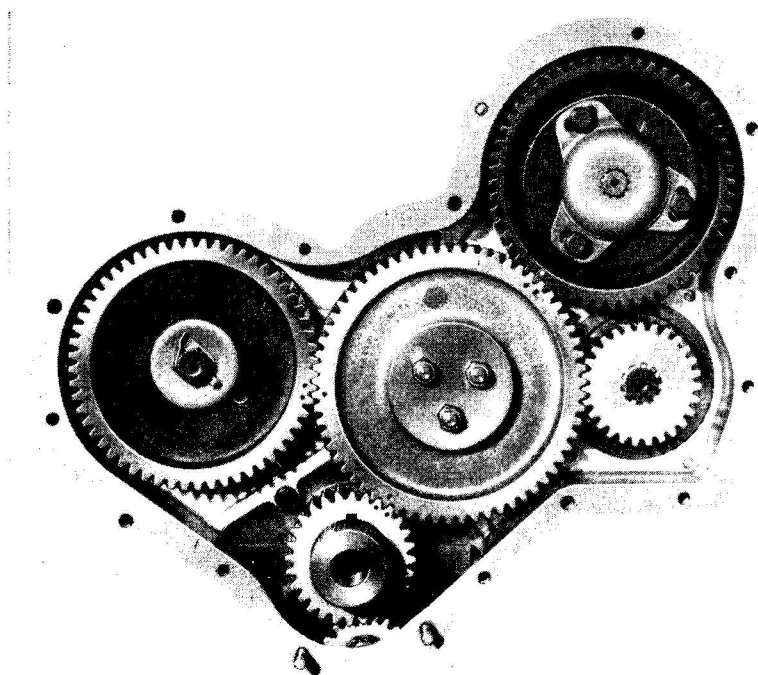

Fig. 5
4. Refit the idler gear to its hub with the timing marks on the crankshaft, camshaft, fuel pump and idler gears aligned (Fig. 5).
5. Refit the idler gear to its hub ensuring all timing marks are aligned (Fig. 5). Fit the idler gear retaining plate and secure to a torque of 33 Nm (24 lbf ft).
2. Remove idler gear and refit so that the timing marks are aligned (Fig. 5).
1. Fit the fuel pump gear to its carrier ensuring that the tooth with the punch mark coincides with double punch marks on the idler gear (Fig. 5). Ensure all timing gear markings are correctly aligned.
2. Fit the fuel pump gear to its carrier with the punch mark aligning with the double punch marks on the idler gear (Fig. 5).
2. Re-align all timing marks (Fig. 5) by removing and replacing idler gear.
1. Fit the fuel pump gear to the shaft, locating the dowel of the gear into the slot on the fuel pump shaft and align the punch mark with the double punch marks on the idler gear (Figs. 5 and 14).